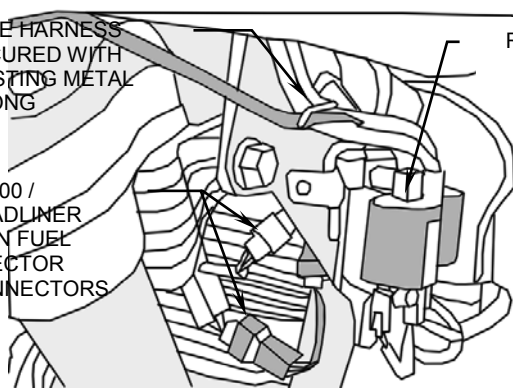

FIGURE 2
3. Feed the remaining portion of the wire harness forward and down through the coil bracket opening, see Figure 2. Locate the white Roadliner 6-pin connector behind the coil-mounting bracket; disconnect this connector.